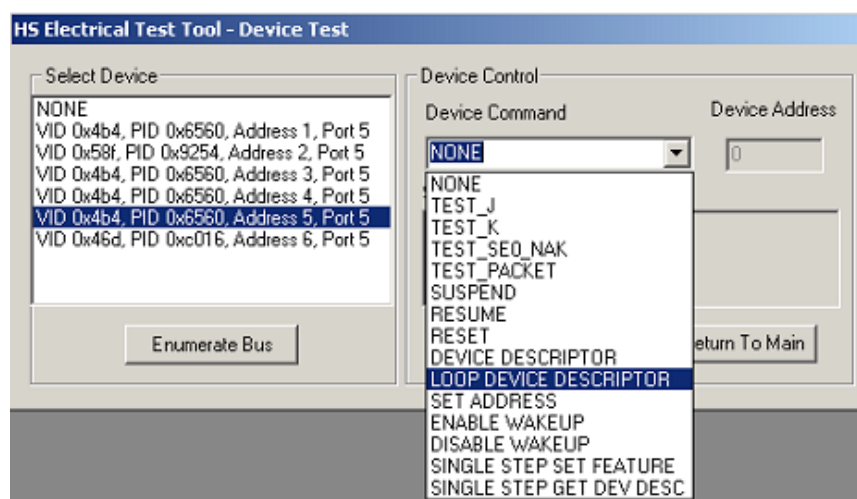

Figure 7. Device Control Command
2. Select the HS electrical test tool software on the computer. Select the **Device** and click on the **Test** button to enter the Device Test menu. See Figure 7.